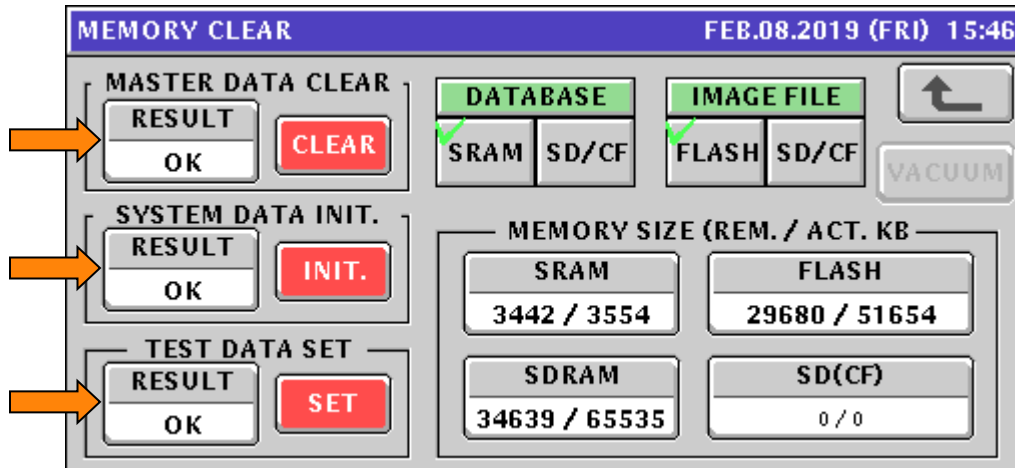

Figure 48. Memory Clear Screen Results
- e. Perform three standard clears: Master Data Clear, System Data Initialize, and Test Data Set following the steps below. See Figure 48.